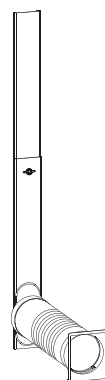

Fig 4
4. The exhaust air duct, window kit, and all associated accessories are fully assembled as shown in Fig 4